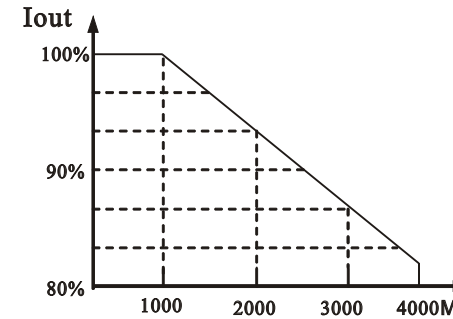

Fig. 1-4 Diagram of Inverter Derating Curve
- Due to thin air in a place where the altitude is higher than 1,000m, the heat dissipation of inverter will be less effective. Hence derating should be done before use. In general, when the height rises by 1,000m, the rated voltage of the inverter shall reduce by 10%. Refer to Figure 1-4 for details of the derating curve.